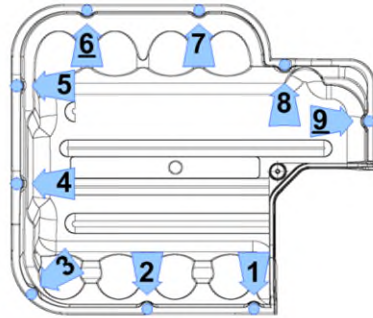

Figure 32 – Top Cover Torque Sequence
28. Place the Top Cover and secure it with the nine (9) M5x15 screws according to the following sequence. Follow the sequence twice. The first time, only fasten screws half way down to allow for adjustments. Torque to 13 in.lb. on the second pass. Refer to Figure 32 (Top Cover Torque Sequence).